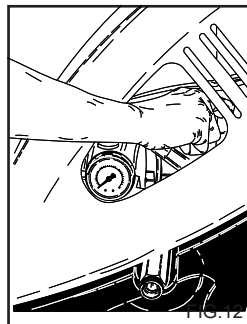

FIG.12
This chapter concerns only those models provided with the "pressure regulating" device. The pressure regulator, fig. 12, allows the operator to adjust the working pressure. When knob C is turned in an anti-clockwise direction (B) (minimum), the working pressure is reduced.